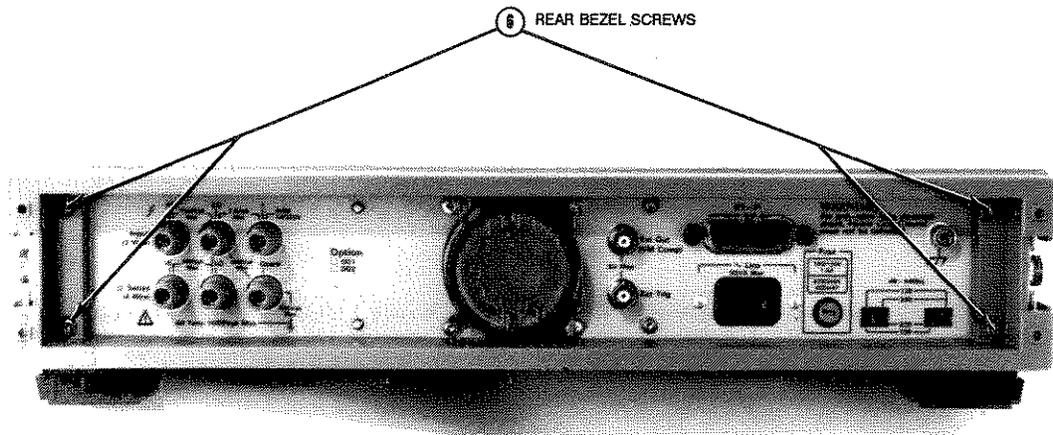

Figure 3-4. Remove/Install Rear Bezel
8. Refer to Figure 3-4. Turn the instrument so its back faces you.
14. Refer to Figure 3-4. Turn the instrument so its back faces you.